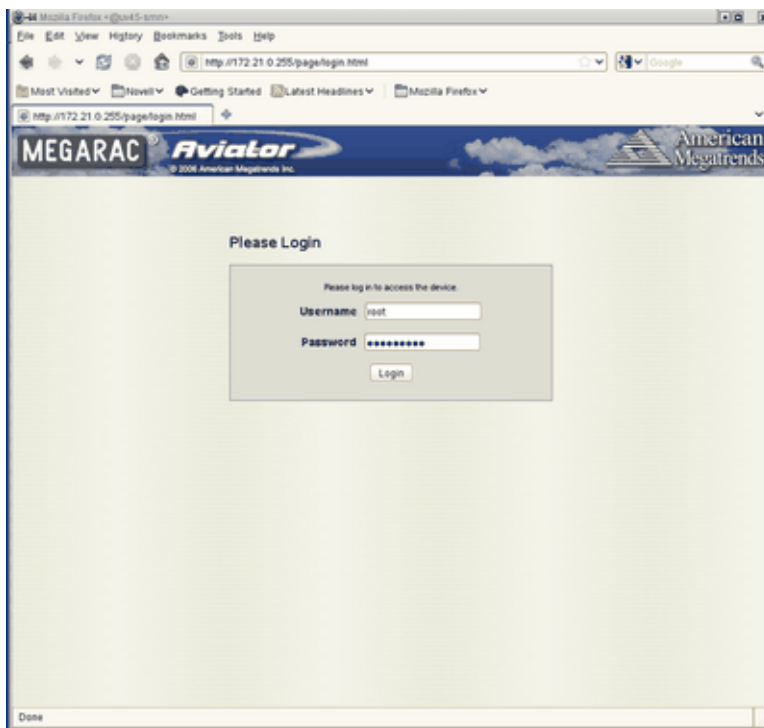

Figure 3-1 BMC Login Screen
4. The BMC login screen appears, as shown in Figure 3-1 on page 38. Login as **root** with the password **superuser**.